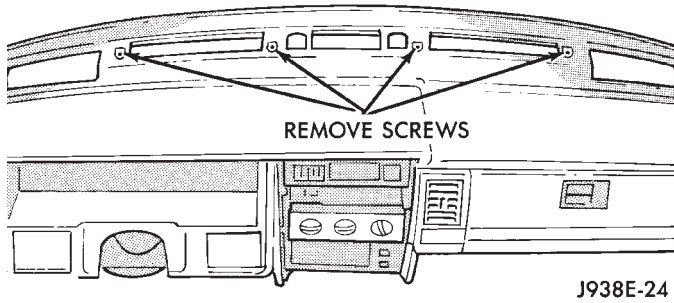

Fig. 6 Upper Dash Pad Attaching Screws
(8) Remove 4 screws in defroster duct opening holding dash pad (Fig. 6).